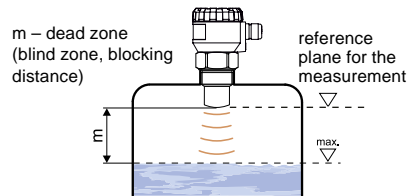

Fig. 2: Level meter dead zone
- The reference plane for the measurement is the lower edge of the transducer (Fig. 2). In connection with the measurement principle, no signals reflected in the area immediately under the level meter can be evaluated. The zone (Fig. 2) determines the min. distance possible between the level meter and the highest level. The min. distances to the medium is 30 cm.